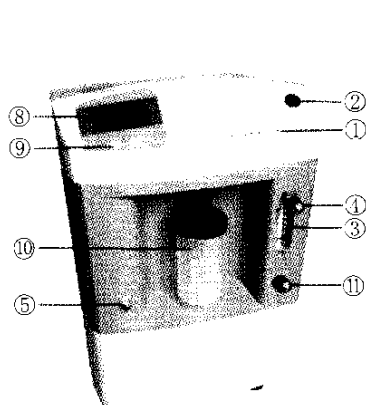

Figure 1
8.1.1 Total 8 indicating lamps and their indication for the machine, which is shown as Figure 1, are as follows: